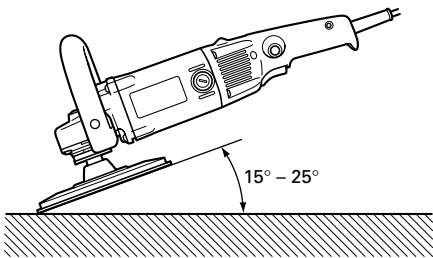

Fig. 3
(2) Do not apply the entire disc surface to the surface of the material. As shown in Fig. 3, the sander should be held at an approximately 15° to 25° angle in relation to the material surface so that the peripheral portion of the sanding disc is offered to the material surface.